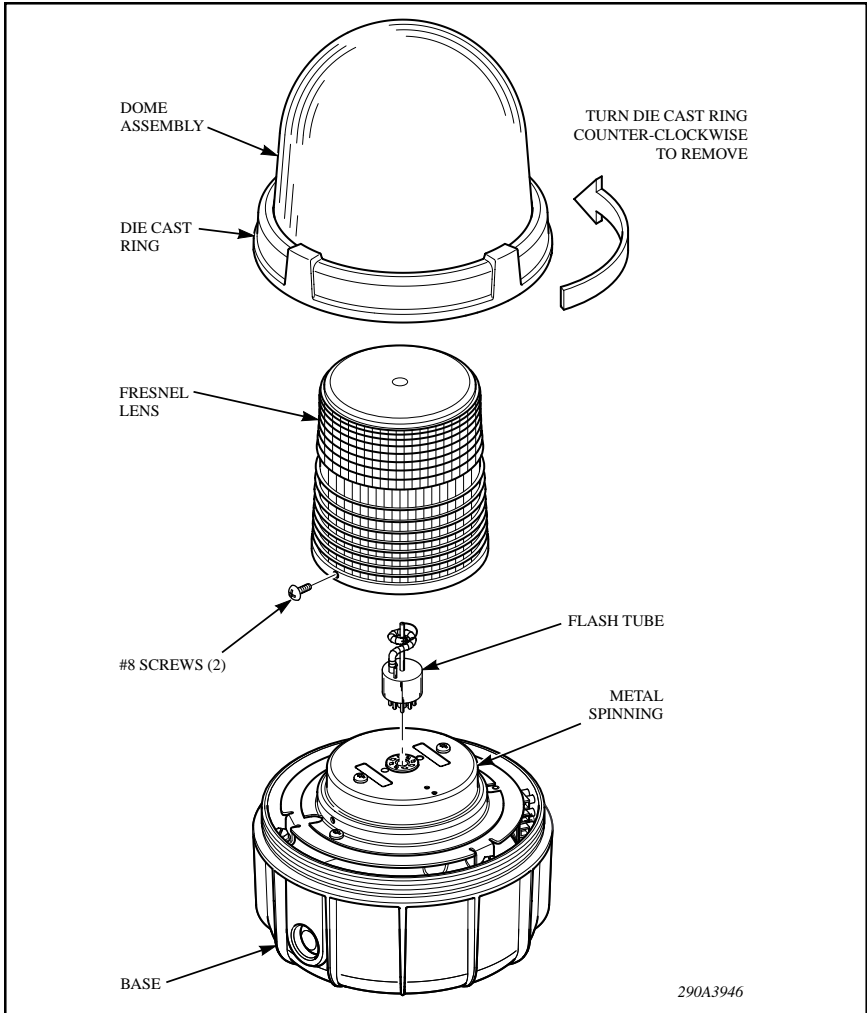

Figure 3.
A. Flashtube Replacement (see figure 3).